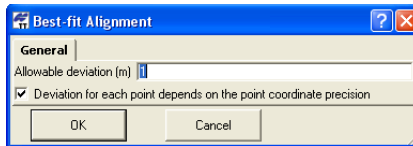

Figure 9-107. The Best-fit Alignment Dialog Box
- In the *Best-fit Alignment* dialog box, type in the desired deflection of the created alignment from the nearest points, or check the check box to use the error of coordinates of the given point as an authorized (permitted) deflection for the alignment (Figure 9-107)